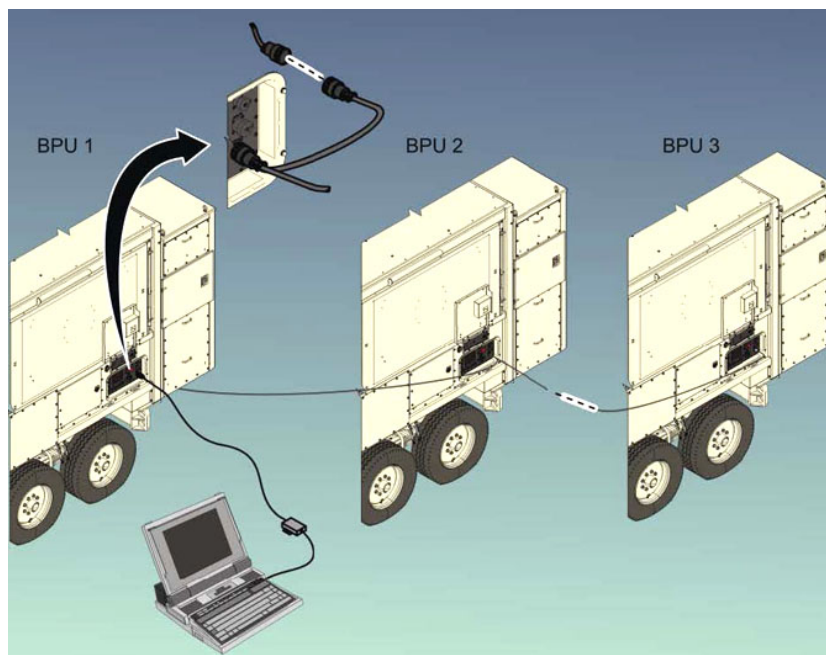

Figure 4-5. Remote operating platform cable setup.
- If using multiple generators, place them close enough so that the paralleling cable can be connected to the DCS of each BPU (fig. 4-5).